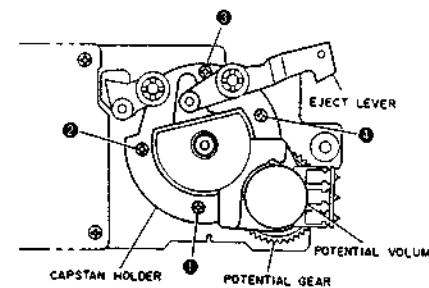

Fig. 3-13
- 3) Remove capstan holder securing screws ①, ②, ③ and ④. Remove the capstan holder. (Refer to Fig. 3-13)